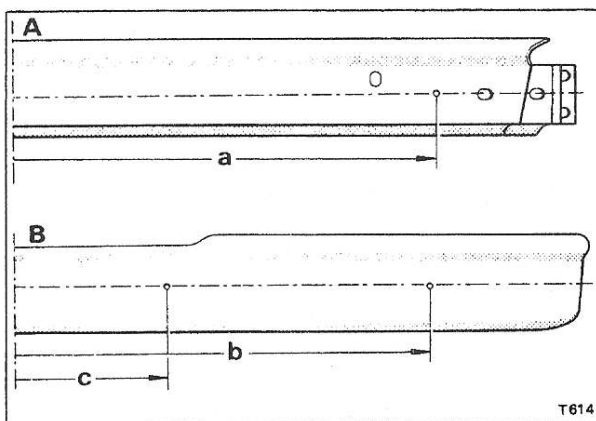

Fig. S87 Positioning and retaining the finisher
6. Using a 4,76 mm. (0.187 in.) diameter drill, bore two holes in the front face of the finisher and through the beam, at the distance specified in Figure S87.
4. Using a 4,76 mm. (0.187 in.) diameter drill, bore four holes in the front face of the finisher and through the beam, at the distances specified in Figure S87.